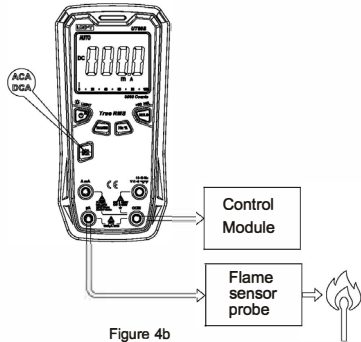

Figure 4b
- “μA” terminal can be used to heating system flame rectifier circuit detection (Figure 4b)